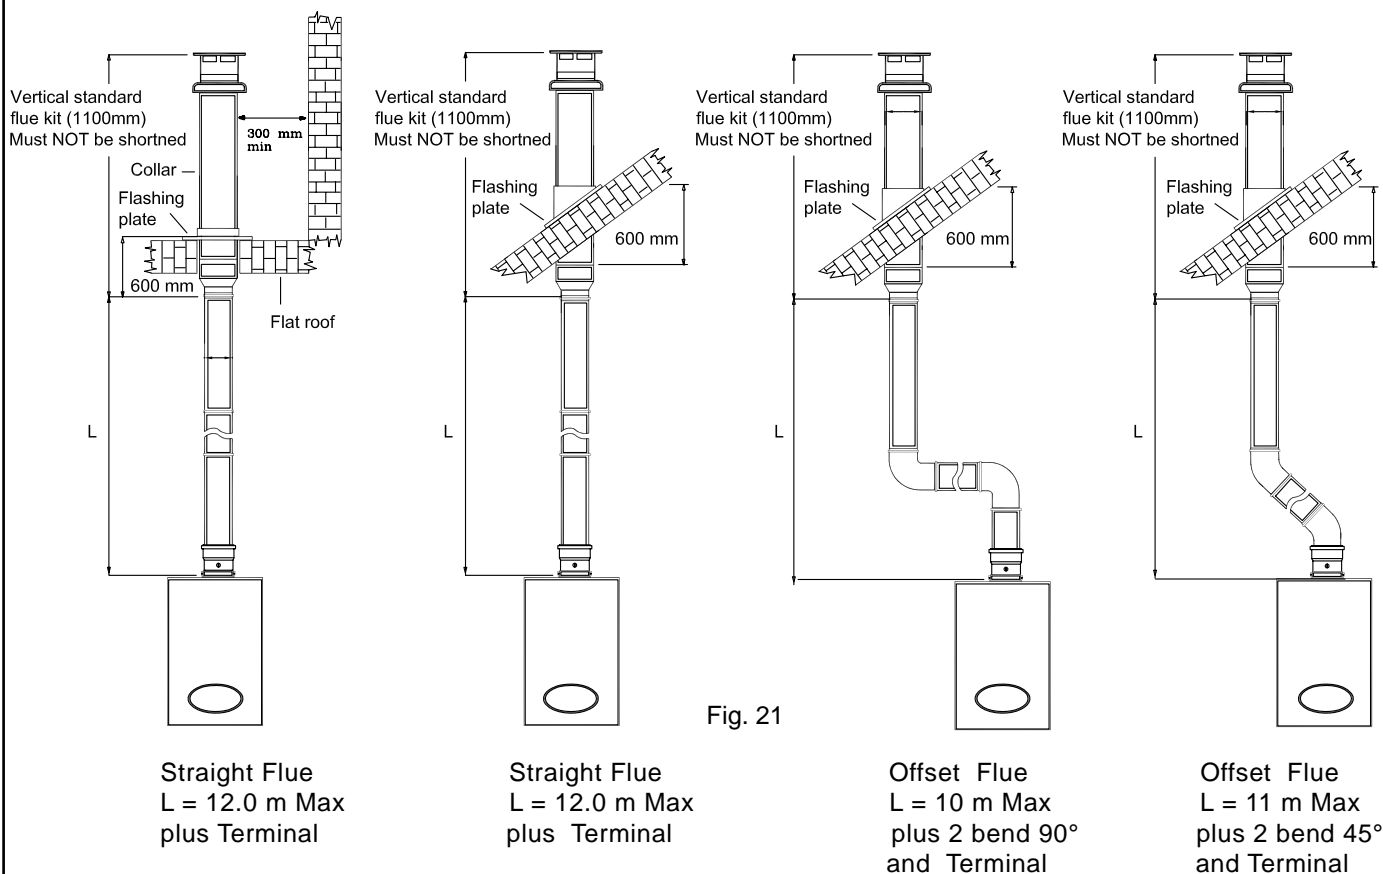

Fig. 21
- Ensure that the maximum permissible flue length is not exceeded (Fig. 21 and table 3).